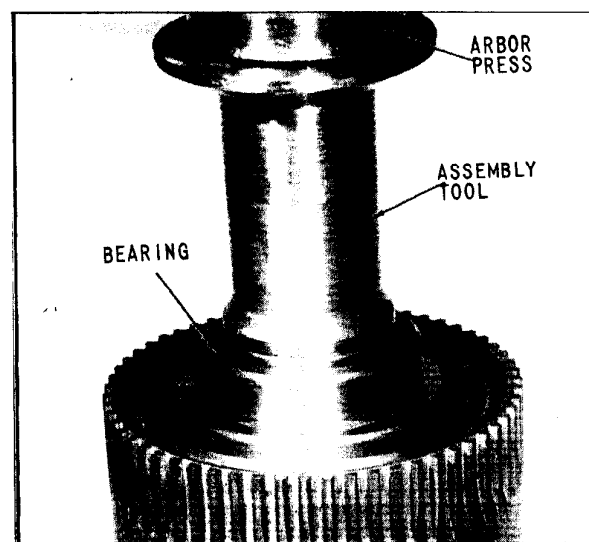

Fig. 49 Pressing Clutch Bearing in Place
39. Place aligned parts and assembly tool in place on arbor press. Place bearing over protruding drive gear and squarely into bore at front of forward clutch cylinder; press bearing down with arbor press until bearing is fully seated on shoulder and snap ring grooves in front of bearing are exposed (Fig. 49).